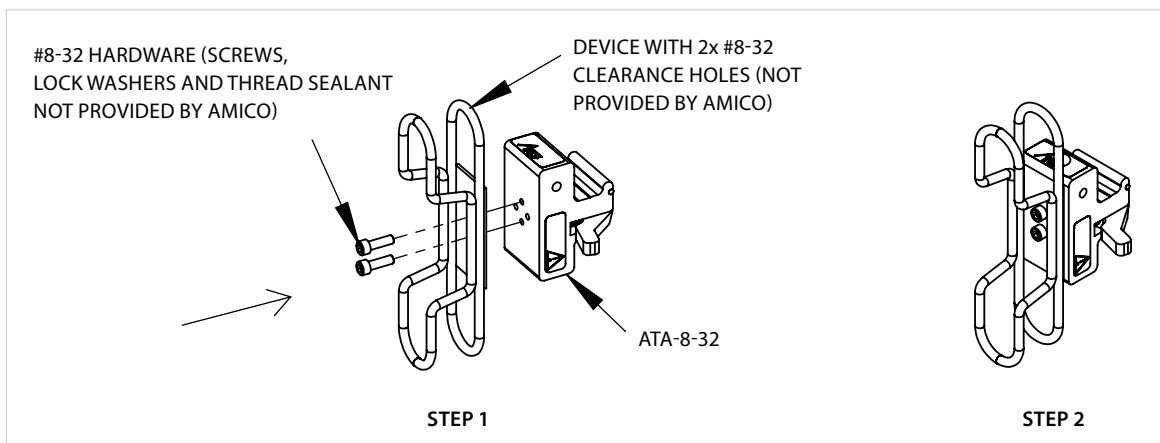

Figure 3
1. Align device with 2x #8-32 clearance holes with ATA-8-32's threaded holes as shown in step 1. **(Figure 3)**
3. Screw device into ATA-8-32 to secure as shown in step 2. **(Figure 3)**